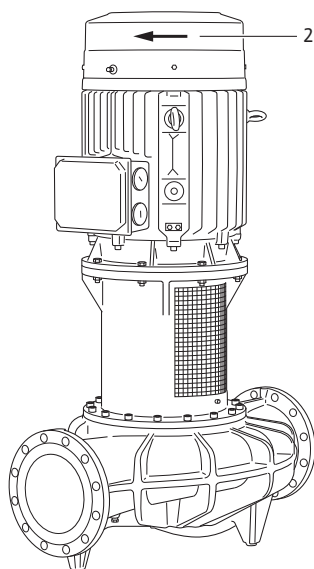

Fig. 47: Check direction of rotation
- By briefly switching on, check whether the direction of rotation agrees with the arrow on the fan cover (see Fig. 47, item 2). If the direction of rotation is incorrect, proceed as follows: